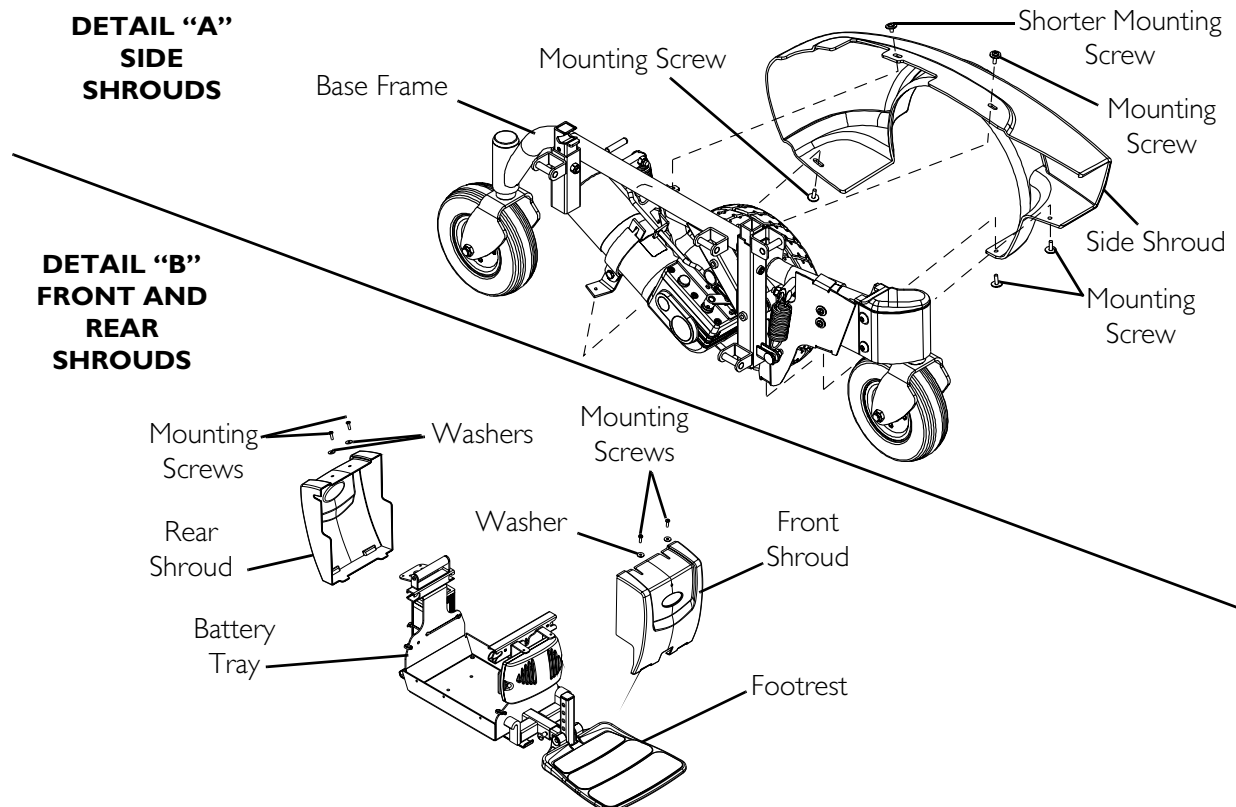

FIGURE 14.1 Removing/Installing the Shrouds
NOTE: For this procedure, refer to FIGURE 14.1.
NOTE: The shorter mounting screws are used to secure the top rear of side shrouds. Refer to DETAIL "A" in FIGURE 14.1.
- Front Shroud - Remove the two mounting screws that secure the front shroud to the base frame. Refer to DETAIL "B" in FIGURE 14.1.
- Rear Shroud - Remove the two mounting screws that secure the rear shroud to the base frame. Refer to DETAIL "B" in FIGURE 14.1.
- Front Shroud - Secure the front shroud to the base frame with two mounting screws. Refer to DETAIL "B" in FIGURE 14.1.
- Rear Shroud - Secure the rear shroud to the base frame with two mounting screws. Refer to DETAIL "B" in FIGURE 14.1.